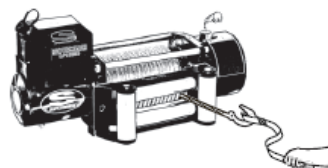

Figure 3
- KEEP CLEAR OF WINCH, TAUT WIRE ROPE AND HOOK WHEN OPERATING WINCH. Never put your finger through the hook. If your finger should become trapped in the hook, you could lose your finger. ALWAYS USE THE HANDSAVER when guiding the wire rope in or out (See Figure 3).